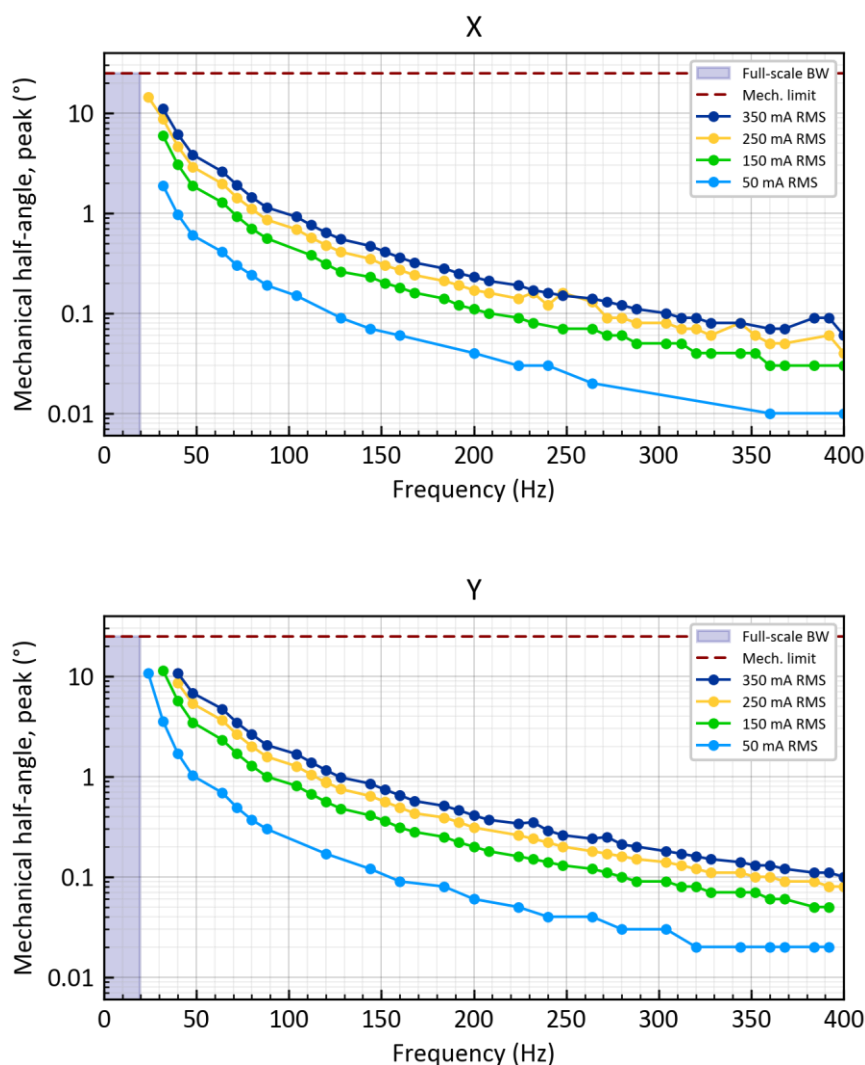

Figure 7: Maximum mechanical half-angle of the X-axis (top) and Y-axis (bottom) as a function of RMS current and frequency of a sinusoidal input.
The maximum achievable amplitude on a single axis, for a given RMS current and frequency, is shown in Figure 7. The MR-15-30 can perform a sinusoidal oscillation covering its full mechanical range up to a frequency corresponding to the full-scale bandwidth (BW). For faster oscillations, the achievable deflection is reduced.